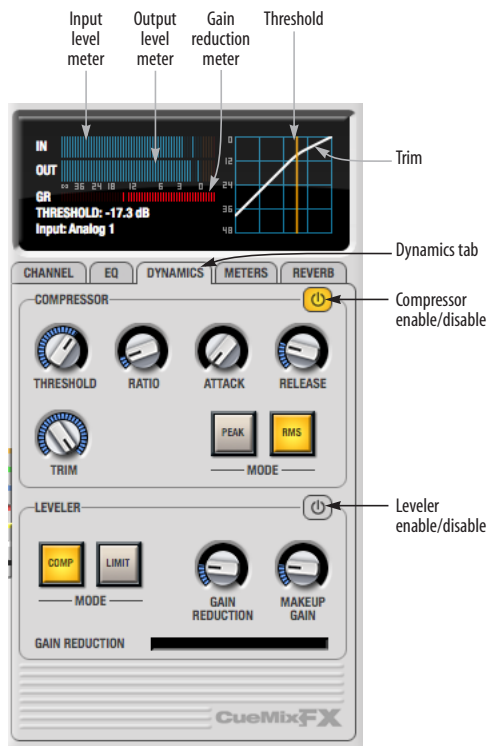

Figure 9-21: The Dynamics tab.
The Dynamics tab (Figure 9-21) displays the Dynamics processing settings for the input or output channel that currently has the focus. Click any focus button in the Inputs or Outputs tab to view the Dynamics tab settings for the channel.
Each input and output channel has a global *Dynamics enable/disable* button (Figure 9-3 and Figure 9-6). This button enables or disables all dynamics processing for the channel. In addition, the Dynamics tab has two different dynamics processors, the Compressor and Leveler, which can be individually enabled or disabled (Figure 9-21) for the channel.
The *Compressor* (Figure 9-21) lowers the level of the input when it is above the threshold. The amount of attenuation is determined by the *Ratio* and the input level. If the input is 6 dB above the *Threshold* and the Ratio is 3:1, then the output will be 2 dB above the Threshold. When the input level goes above the threshold, the attenuation is added gradually to reduce distortion. The rate at which the attenuation is added is determined by the *Attack* parameter. Likewise, when the input level falls below the Threshold, the attenuation is removed gradually. The rate at which the attenuation is removed is determined by the *Release* parameter. Long Release times may cause the audio to drop out briefly when a soft passage follows a loud passage. Short Release times may cause the attenuation to pump when the average input level quickly fluctuates above and below the Threshold.
The Threshold can be adjusted by turning the Threshold knob or by dragging the Threshold line directly in the compressor graph (Figure 9-21).
The *Input Level* meter (Figure 9-21) shows the level of the input signal before it enters the compressor. It shows either the peak level or the RMS level, depending on which mode is currently chosen.
The Gain reduction (*GR*) level meter (Figure 9-21) displays the current amount of attenuation applied by the compressor.
The *Output Level* meter (Figure 9-21) displays the peaks of the output signal. Trim is applied before the Output Level meter.
The Leveler™ (Figure 9-21) provides an accurate model of the legendary Teletronix™ LA-2A® optical compressor, known for its unique and highly sought-after Automatic Gain Control (AGC) characteristics. The Track16 Leveler faithfully models the LA-2A using the on-board DSP with 32-bit floating point precision.
The *Comp* and *Limit* buttons (Figure 9-21) model the original LA-2A Limit/Compress mode switch. The effect is very subtle, with the Limit option behaving only slightly more like a limiter than a compressor. The switch increases the level of the input to the AGC model and runs the attenuator at a slightly lower level. The Leveler then responds more strongly to transients, but otherwise still behaves like a leveling amplifier.
*Gain Reduction* (Figure 9-21) sets the strength of the signal sent to the AGC model.
*Makeup gain* (Figure 9-21) amplifies the output signal to make up for gain reduction.